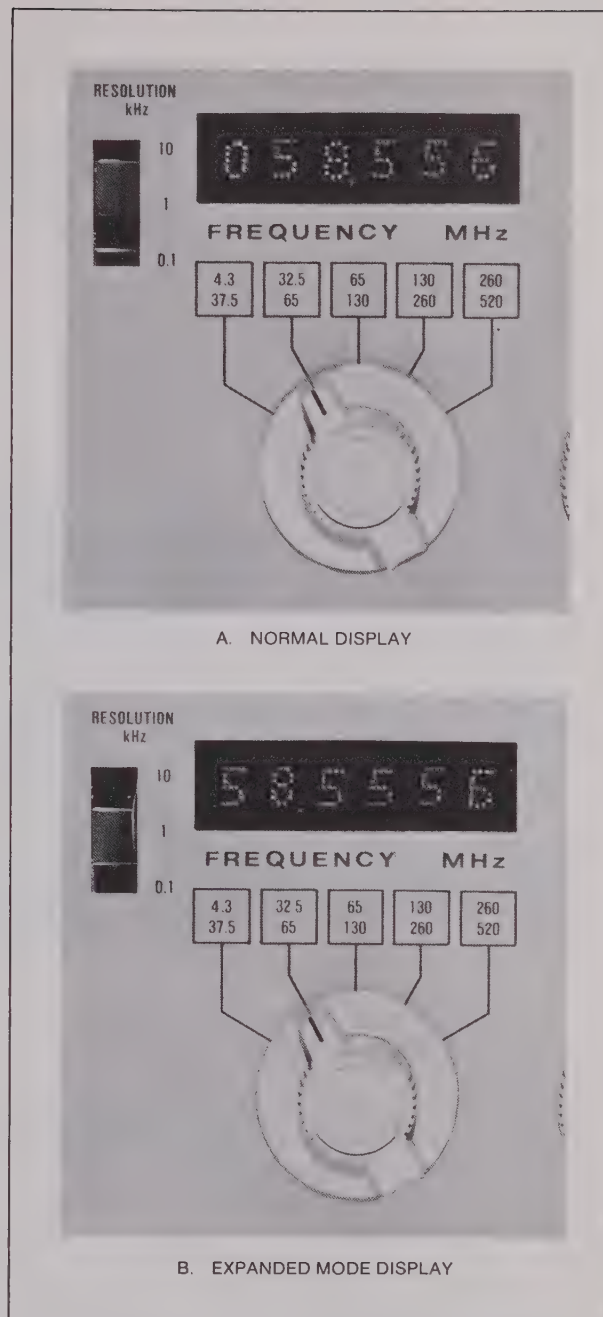

Figure 1-4 LED Frequency Display
c. **LED Frequency Display.** The output frequency of the Model 102A is continually displayed during use by means of a 6-digit LED display. The elimination of a tuning dial, with its recalibration problems and inherent reading uncertainty, removes a major source of operator error. The LED display provides clear, unambiguous readings with selectable resolution, minimizing the possibility of misinterpretation. (See Figure 1-4.) Resolution of 0.1, 1, or 10 kHz can be selected by means of a front-panel switch.